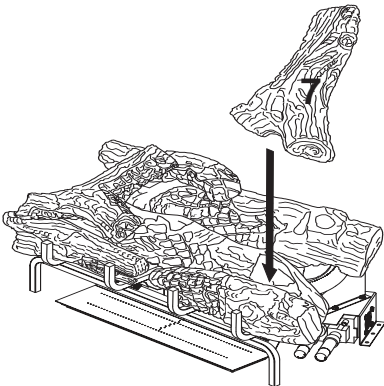

Figure 41 - Installing Log # 7
- Place the right crossover log (#7) on top of the middle log and rear log as shown in Figure 41. Match the round peg on the top of the rear log with the round hole on the bottom of the right crossover log and square peg on the top of the middle log with the square hole on the bottom of the right crossover log.